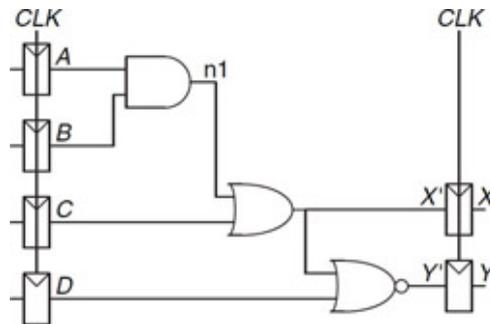

Figure 9.1: Charlie's circuit which experiences a hold violation.
Your co-worker Charlie has designed the circuit shown in Figure 9.1. The design uses flip-flops with the timing characteristics shown in Table 9.8. All logic gates have the same timing characteristics: the propagation delay, t_{pd} , is 40 ps and the contamination delay, t_{cd} , is 25 ps.
- Charlie has determined that the circuit in Figure 9.1 will experience hold violations. Verify that conclusion by calculating the requirement for the hold violation. (2 p)